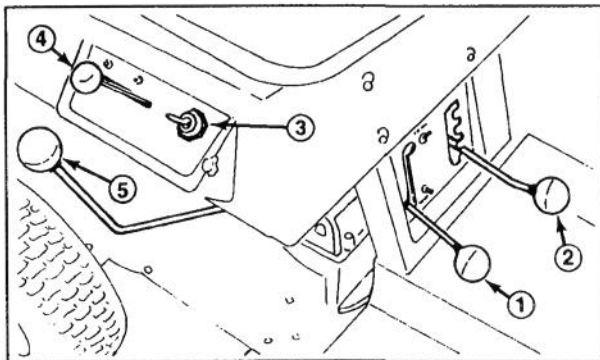

Figure 5
**Gear Shift (Fig. 5)**—The transmission has five forward speeds, neutral, and reverse. The gear shift lever is located on right side of operator. An interlock switch, which prevents engine from being started when transmission is in gear, is mounted on top of transmission.
**Blade Control (Fig. 5)**—Blade control engages and disengages the cutter blade. An interlock switch prevents engine from starting when control is in the ENGAGE position. Engine will start when control is in the DISENGAGE position only.
**Throttle Control (Fig. 5)**—Throttle control connects to and operates carburetor-mounted throttle and choke. Control has three positions: SLOW, FAST and CHOKE.
**Height-of-Cut (Fig. 5)**—Height-of-cut control varies the cutting height from approx. 1-1/2 to 3-1/2 inches in five increments.
2. Move gear shift into neutral and blade control into DISENGAGE detent (Fig. 5).
3. Move throttle control to CHOKE position (Fig. 5) when starting a cold engine. However, a hot engine
4. Rotate Ignition key (Fig. 5) to START position. When engine starts, release the key and move throttle between FAST and SLOW if choke was used for starting. Operate the rider with throttle control in FAST (full throttle) position for best performance.
1. Move blade control into DISENGAGE detent (Fig. 5).
2. Move height-of-cut control (Fig. 5) into desired setting.